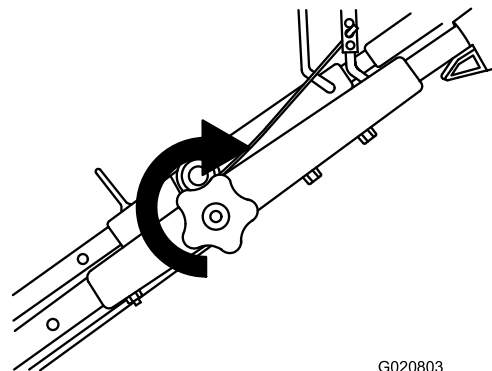

**Figure 3**
1. Move the handle rearward and hold the upper handle in place (Figure 3).